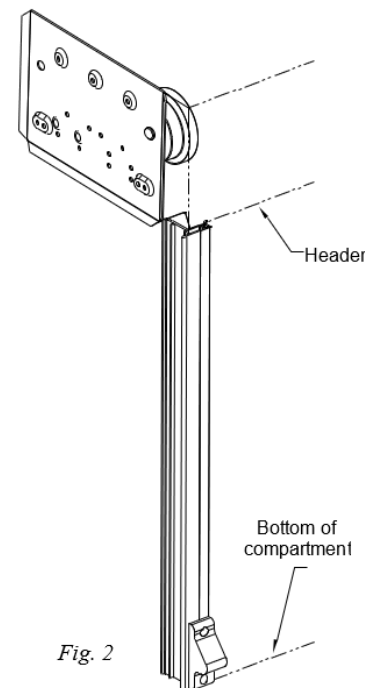
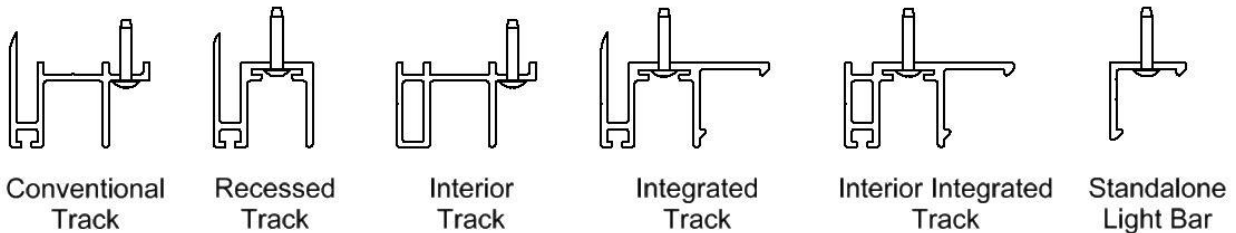

Fig. 2
Fig. 2a
- Position the track between the header and the bottom of the compartment. Make sure the bottom of the track touches the bottom of the compartment (Fig 2). The finishing flange should be flush against the skin of the vehicle. Optional track configurations are shown in Fig. 2a.